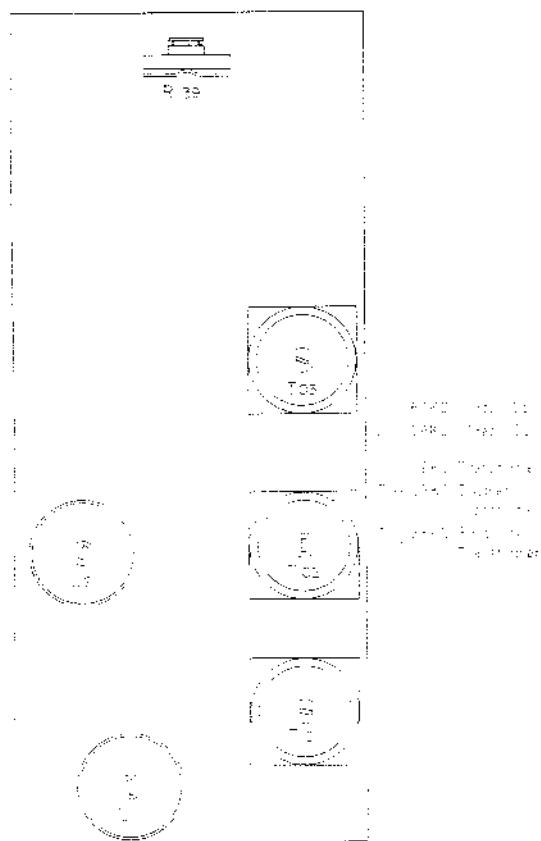

Fig. 6
**Adjustment for Adapter Circuit Board****A. Trap Coil Adjustment (Refer to Fig. 6 and Fig. 7)**